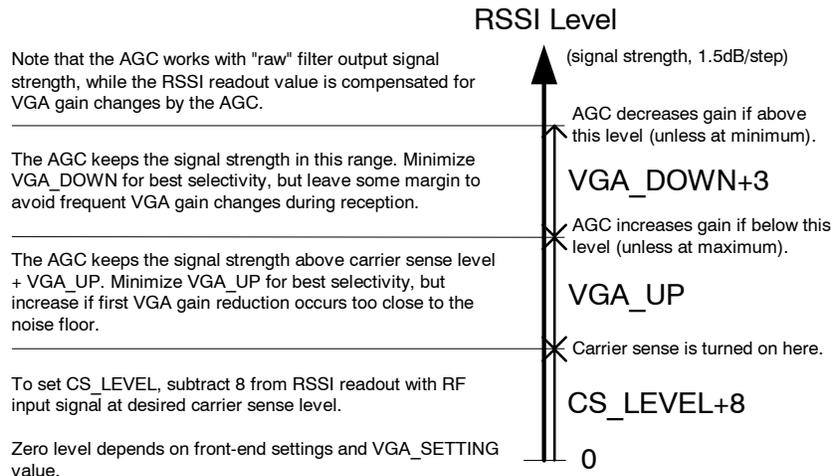

Figure 18. Relationship between RSSI, carrier sense level, and AGC settings `CS_LEVEL`, `VGA_UP` and `VGA_DOWN`
A digital RSSI is used to measure the signal strength after the ADC. The `CS_LEVEL[4:0]` in the `VGA4` register is used to set the nominal operating point of the gain control (and also the carrier sense level). Further explanation can be found in Figure 18.
5. If desired, adjust the `VGA_UP` and `VGA_DOWN` settings according to the explanation in Figure 18.
$CS\_LEVEL[4:0]$  must be changed accordingly to maintain the same absolute carrier sense threshold. See Figure 18 for an explanation of the relationship between RSSI, AGC and carrier sense settings.